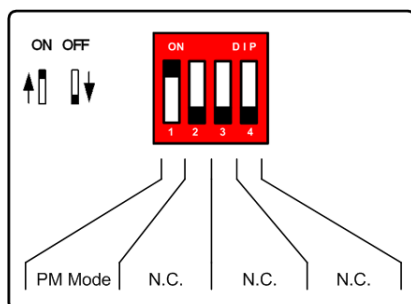

Fig. 16: Rear-panel dip-switch configuration
If and only if the device is Primary Master (PM), the user has access to a hardware selectable mode that re-organizes the AVM500-ES internal wiring. To access this mode, the dip-switch #1 on the rear panel must be set to “ON” (Fig. 16). To go back to Mono Network Mode, reset the dip-switch #1 to “OFF”.